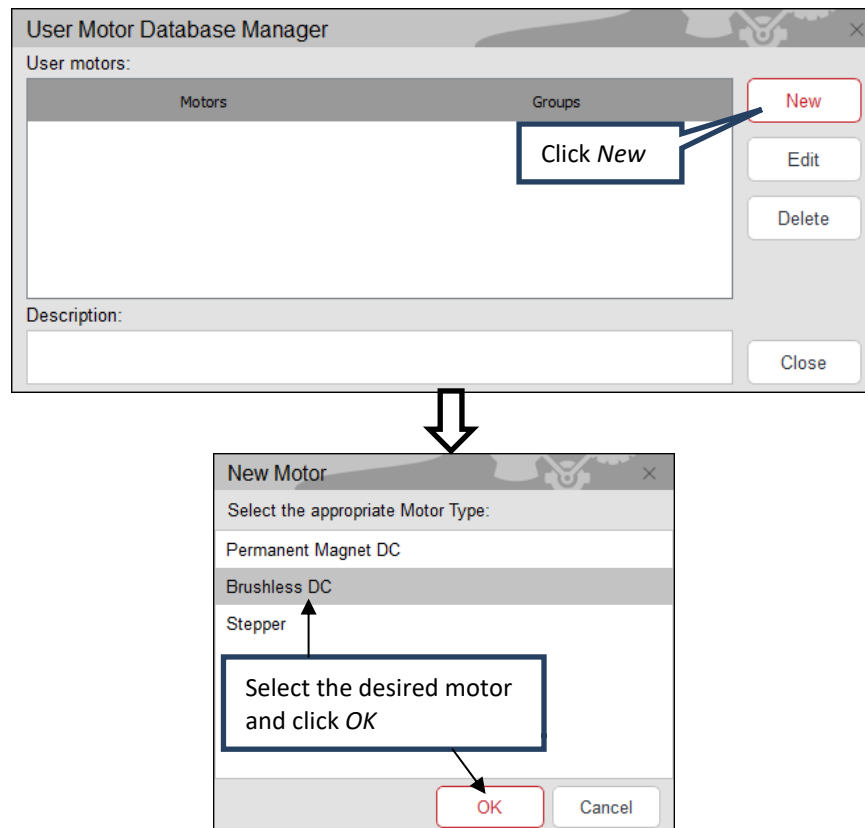

Figure 62: New Motor Type Selection Window
- Select *New* in the *User Motor Database Manager* window and select the desired motor type from the list and click *OK* as shown in Figure 62. Brushless DC motor is selected to demonstrate this tool.